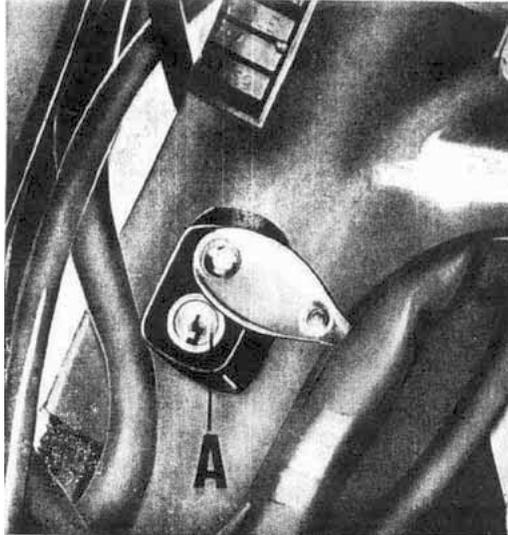

Fig. 31
**Steering lock (See fig. 31)**